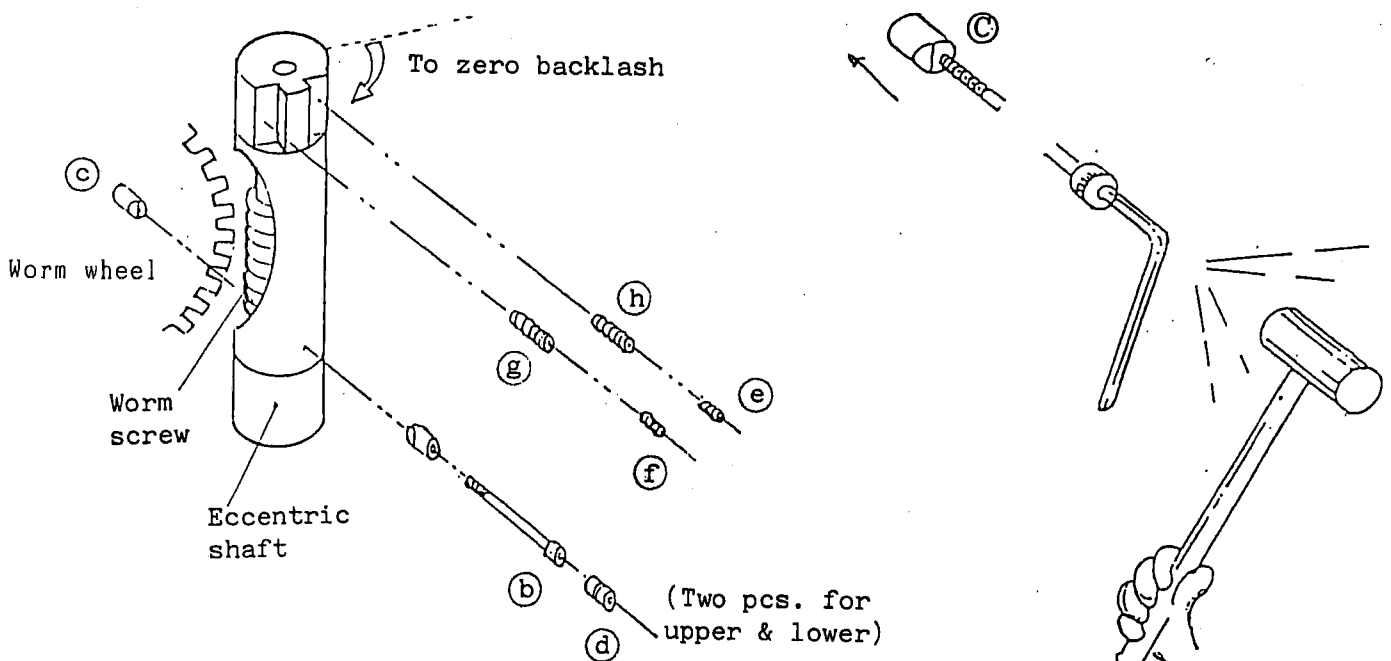

Fig. 2
- 2) Remove the cover (C) by utilizing two threaded holes.
- 3) Slightly loosen four bolts which tighten the eccentric shaft (E).
- 5) Loosen two (upper and lower) bolts (b) which tighten the eccentric shaft by three to four turns tap at heads thereof as shown in Fig.2. Thus, the wedged sleeve (c) which holds the eccentric shaft will be loosen by a shock of tapping, eccentric shaft clamping force will be released and the shaft will be freed to enable the adjustment of backlash.